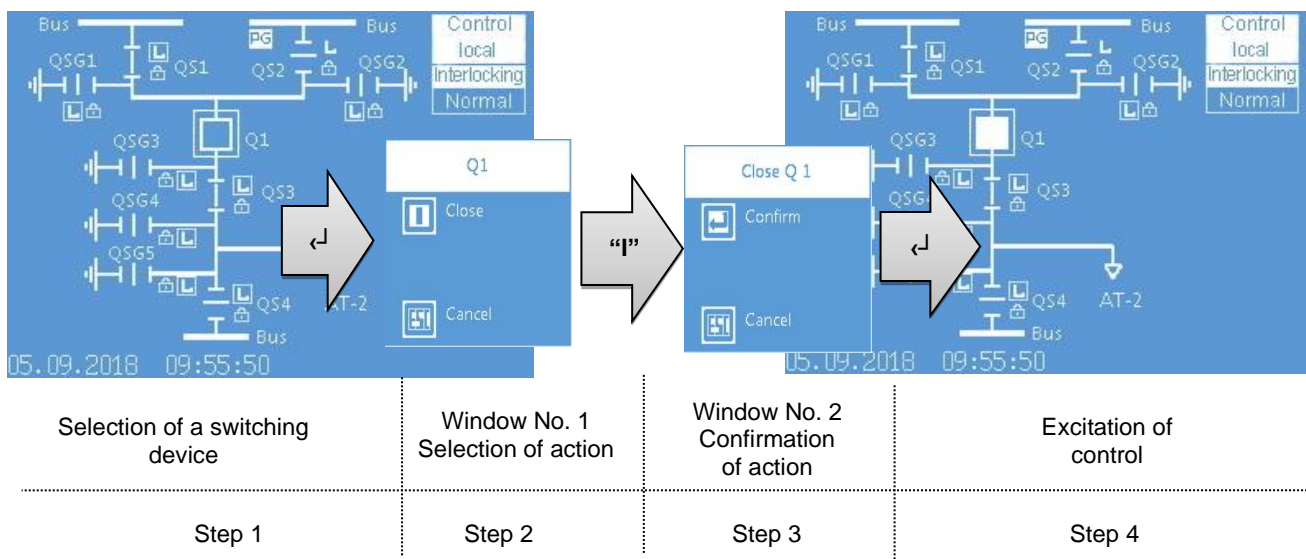

Figure 86 – Example of circuit breaker control
**User procedure** (see Figure 86):